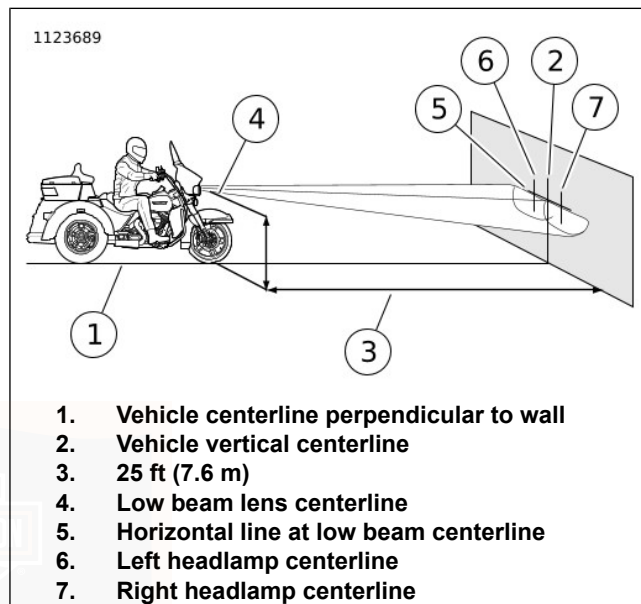

Figure 82. Headlamp Alignment: Dual LED
4. See Figure 82. Park the motorcycle on a line (1) perpendicular to the wall.
6. Draw a vehicle vertical centerline (2) on the wall.